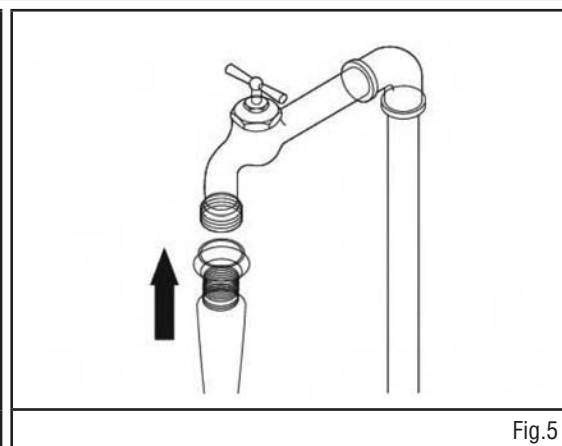

Fig.5
5. Attach garden hose to water supply and turn water on. (Fig. 5)